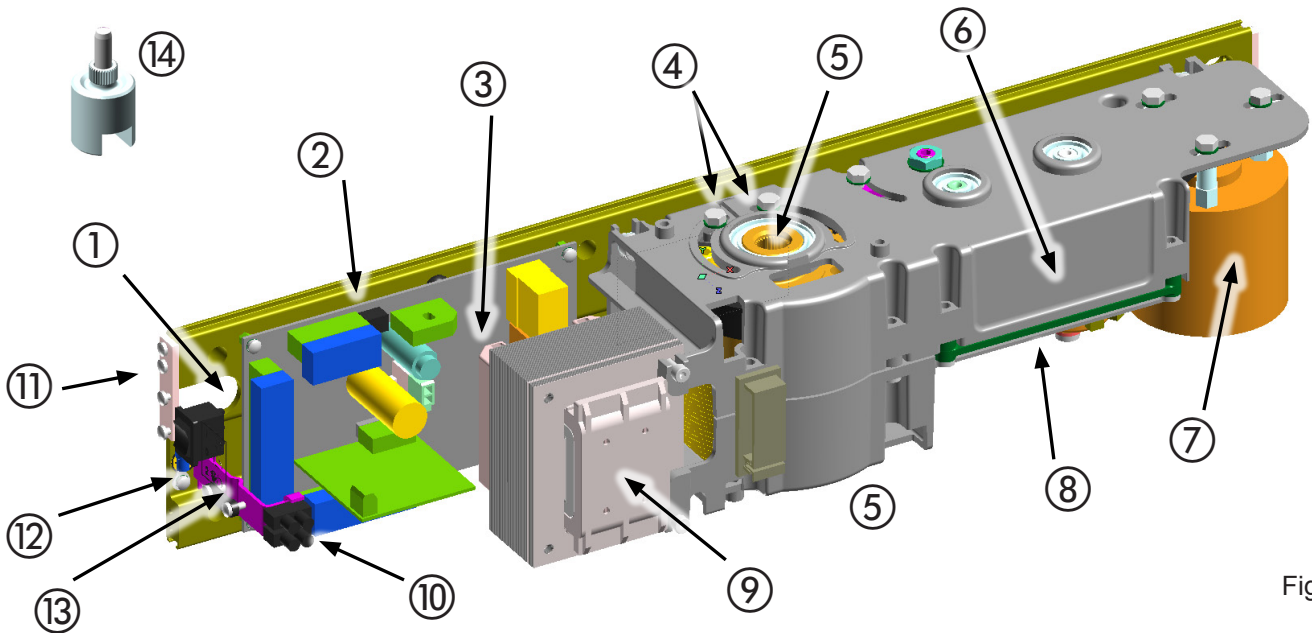

Fig.1
2) Install the housing securing brackets (fig.1 ref. ©) and tighten the fixing screws. Insert the fixing screws in the housing, without tightening them completely.